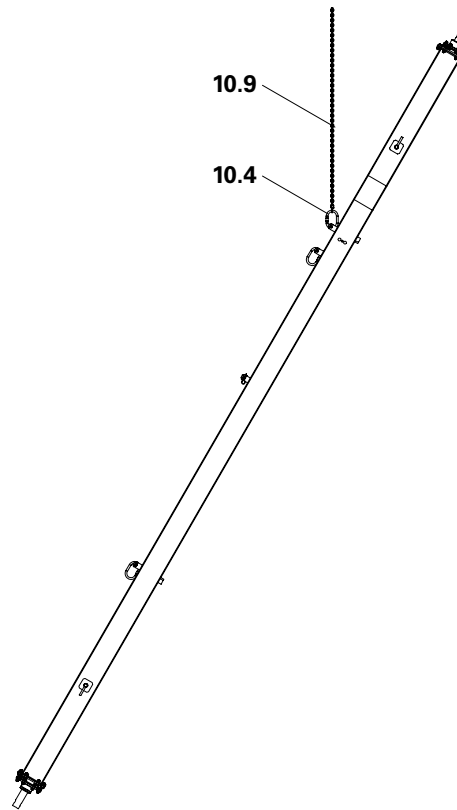

Fig. A3.12
4. Attach push-pull prop to crane lifting gear and guide to the formwork element. (Fig. A3.12)